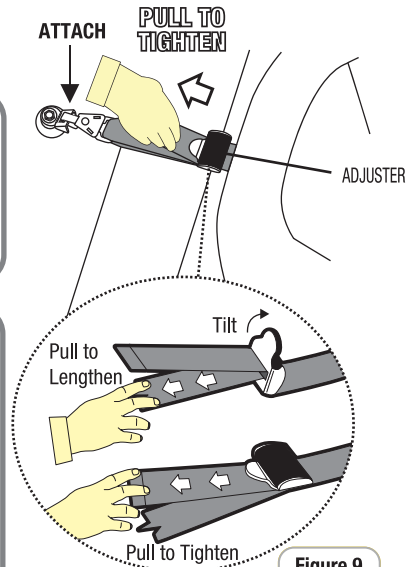

Figure 9
**Step 6:** Pull to tighten to remove all the slack, from the upper anchorage strap. Create a firm installation by tightening the upper anchorage strap (refer to Figure 9).